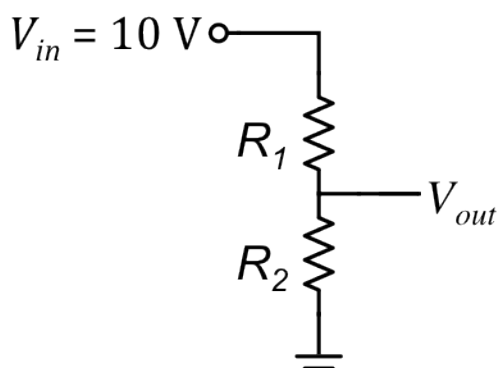

Figure 2 - Voltage divider circuit.
In this portion of the lab, you will construct the circuit shown in Figure 2 using a solderless breadboard. You will then measure V_{out} as a function of the resistance R_2 . Copy the circuit diagram and table into your lab notebook.
1. Sketch the circuit shown in Figure 2 in your lab notebook.
5. Insert this resistor into proto board as R_2 to form the circuit shown in Figure 2. Use the proto board's built-in power supply to provide $V_{in} = 10\text{ V}$ to the circuit. Make sure the other end of the circuit is properly connected to ground.
11. Make a plot of the *measured* output voltage V_{out} as a function of the *measured* resistance R_2 with the theoretical curve given by Eq. (1). (Make the *theoretical* curve smooth by using 'linspace()' for the variable R_2 , and the measured value for the constant R_1 .)